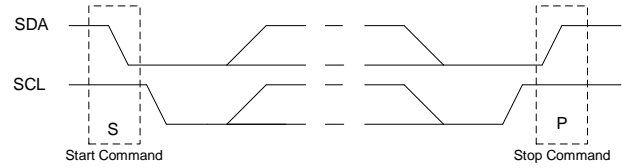

Figure 5: Start and Stop Commands
The start and stop commands are signaled by the master device which signifies the beginning and the end of the I²C transfer. The start (S) command is defined as the SDA signal transitioning from high to low while the SCL is high. The stop (P) command is defined as the SDA signal transitioning from low to high while the SCL is high. Figure 5 shows the start and stop commands.